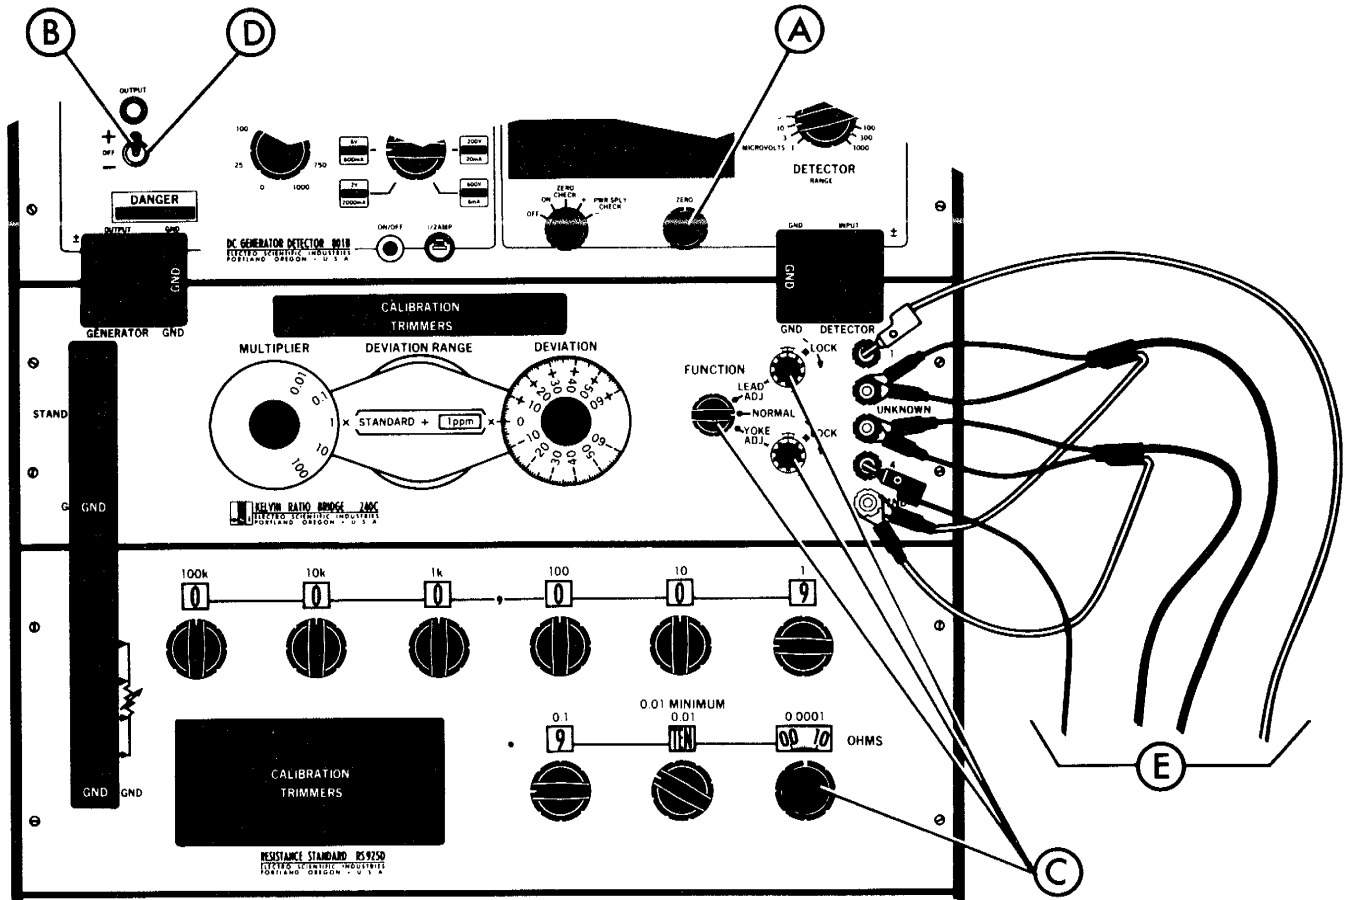

Figure 5-7. System Calibration at 10 ohms
6. Calibrate the 242D system to the 10 ohms standard resistor. Reference Figure 5-7.